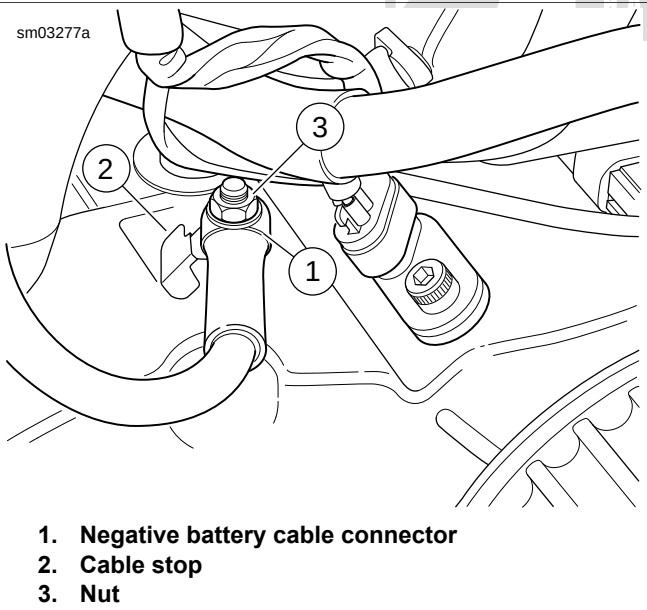
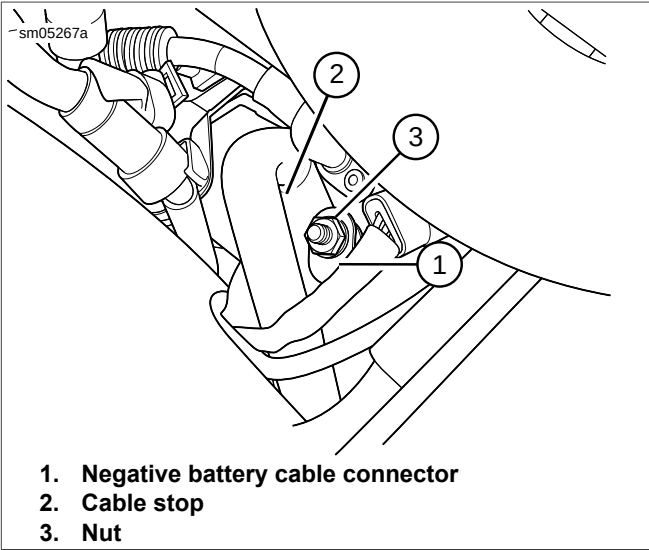

Figure 1-72. Attaching Negative (-) Battery Cable to Ground Stud Crankcase: XL Models
Figure 1-73. Attaching Negative (-) Battery Cable to Ground Stud Crankcase: XR 1200X
- 14. See Figure 1-72 or Figure 1-73. Press negative (-) battery cable connector (1) against cable stop (2) on crankcase and tighten nut (3) to 55-75 in-lbs (6.2-8.5 Nm).